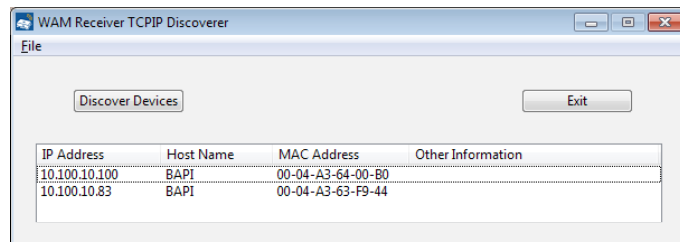

Fig. 8: Discover Program Display
4. Run the discover program in your computer and the DHCP address will be displayed. See Fig. 8 which shows 2 WAM receivers.